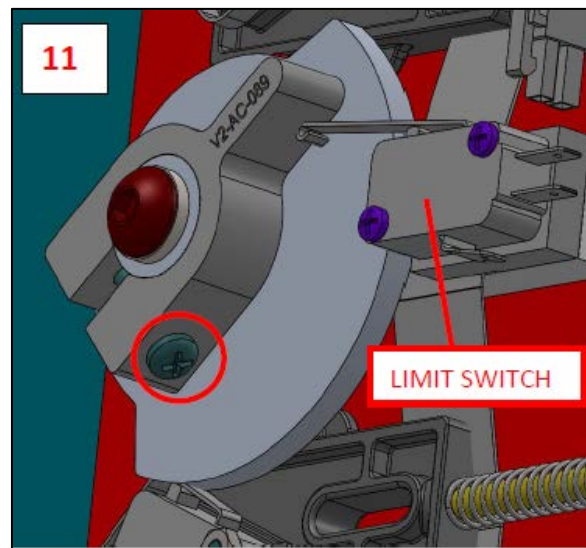

Figure 11: Adjust Actuator
14. Adjust the actuator position so the limit switch has been pressed down until you hear a click. Using a #8 screw driver, reinstall the screw. See **Figure 11**.